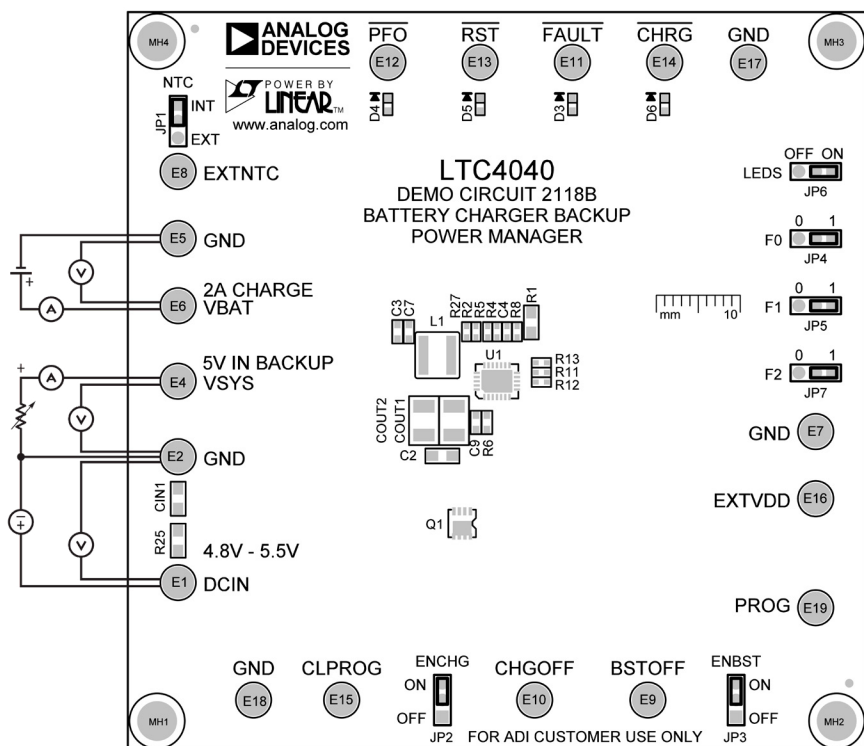

Figure 3. Proper Measurement Equipment Setup
- With all power off, connect the input supply, system load, and meters as shown in Figure 3.
- Connect the battery as shown in Figure 3 to charge at 4.1V, 2A. For alternate charge voltage settings, refer to Table 1.
- Use an external thermistor connected between EXTNTC and GND as shown in Figure 3, with the NTC jumper, JP1, set to EXT.